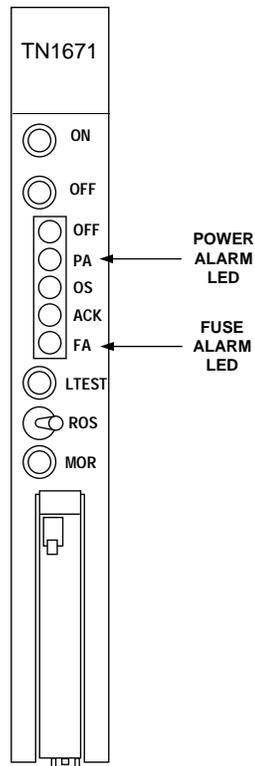

Figure 1. The TN1671 Circuit Pack
1. Does the IPUB have a **blown fuse (FA and OFF LEDs lighted on the TN1671 circuit pack)** or a **power alarm (PA and OFF LEDs lighted on the TN1671 circuit pack)**? (See Figure 1.)